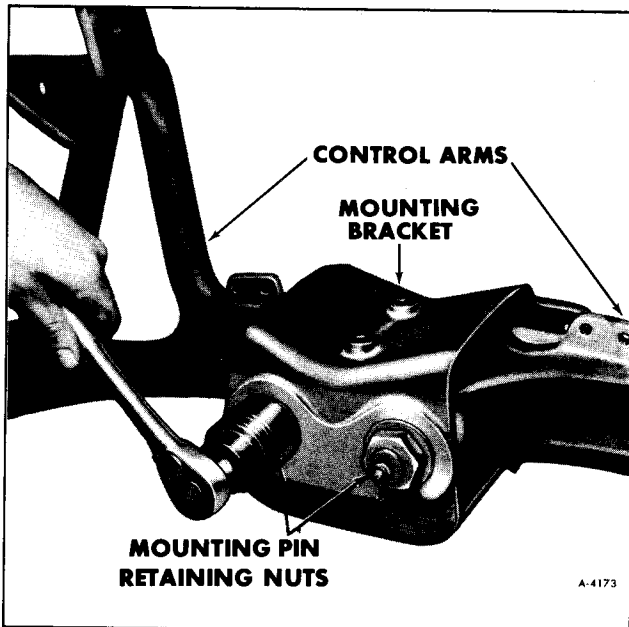
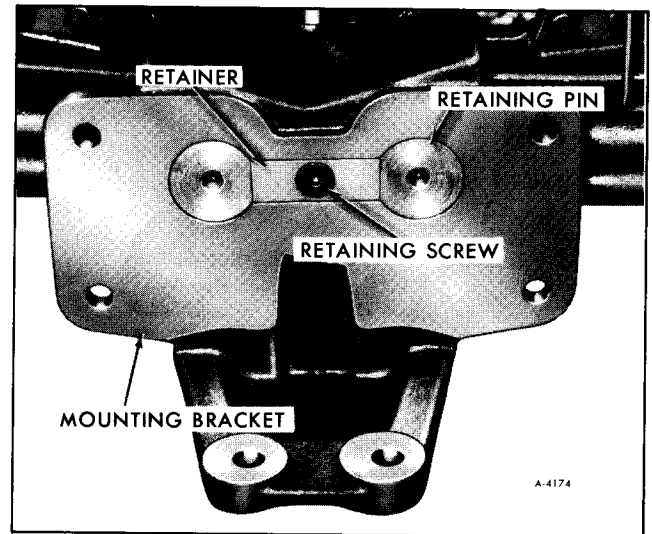

Figure 22—Removing Mounting Bracket Nuts
Figure 23—Location of Retainer
12. Referring to Figure 22, remove two nuts on mounting bracket. Remove Allen head retainers screws on back of mounting bracket as shown in Figure 23.